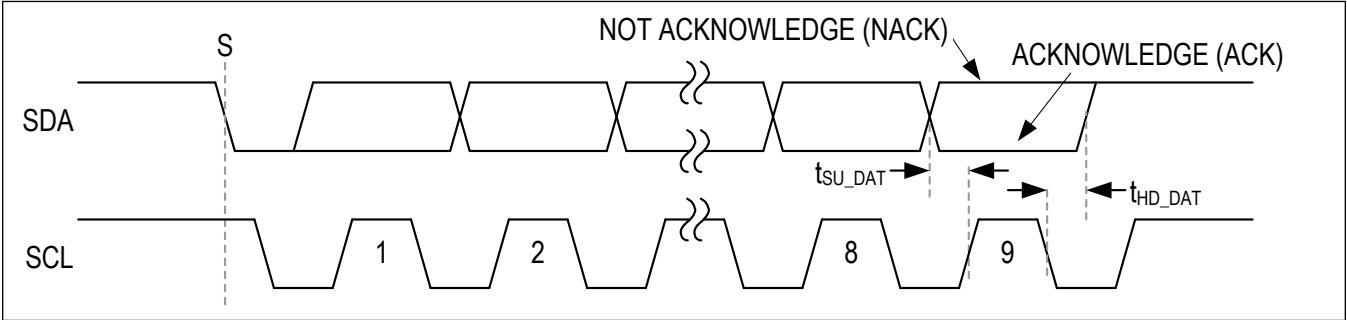

Figure 30. Acknowledge Bit
Both the I²C bus master and slave devices generate acknowledge bits when receiving data. The acknowledge bit is the last bit of each nine bit data packet. To generate an acknowledge (A), the receiving device must pull SDA low before the rising edge of the acknowledge-related clock pulse (ninth pulse) and keep it low during the high period of the clock pulse. See Figure 30. To generate a not-acknowledge (nA), the receiving device allows SDA to be pulled high before the rising edge of the acknowledge-related clock pulse and leaves it high during the high period of the clock pulse.